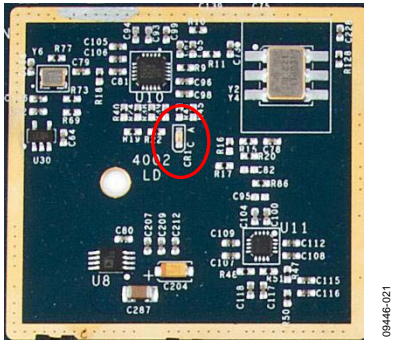

Figure 21. ADF4002 (1) Placement
A photo of the ADF4002 (1) placement is shown in Figure 21. The input reference can come from the on-board 30.72 MHz crystal (Y6) or the SMA connector, SYSCLOCK_IN (J5). It can also be passed from the FPGA through the FMC or HSMC connector. The synthesized 122.88 MHz output of the ADF4002 (1) is buffered with the ADCLK925 (U11) and distributed to the AD9516 and the second ADF4002 (2). When the PLL is locked, CR1 is illuminated.